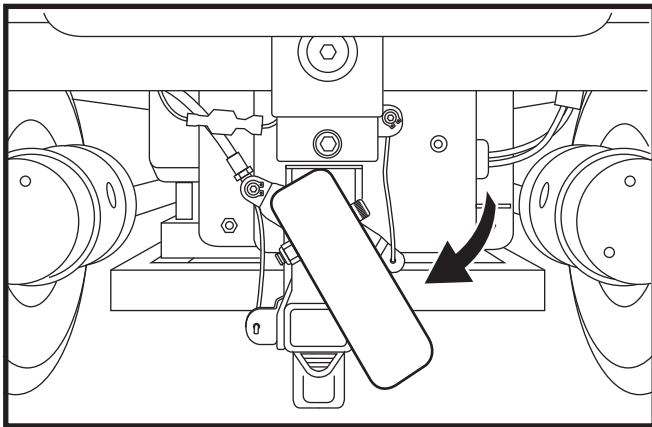

Figure 8. Freewheel Mode (Drive Disengaged)
For your convenience, your power chair is equipped with a manual freewheel lever. See figures 8 and 9. This lever allows you to disengage the drive motors and manoeuvre the chair manually.
1. Pull the manual freewheel lever out and rotate clockwise for freewheel mode (drive disengaged.) See figure 8.